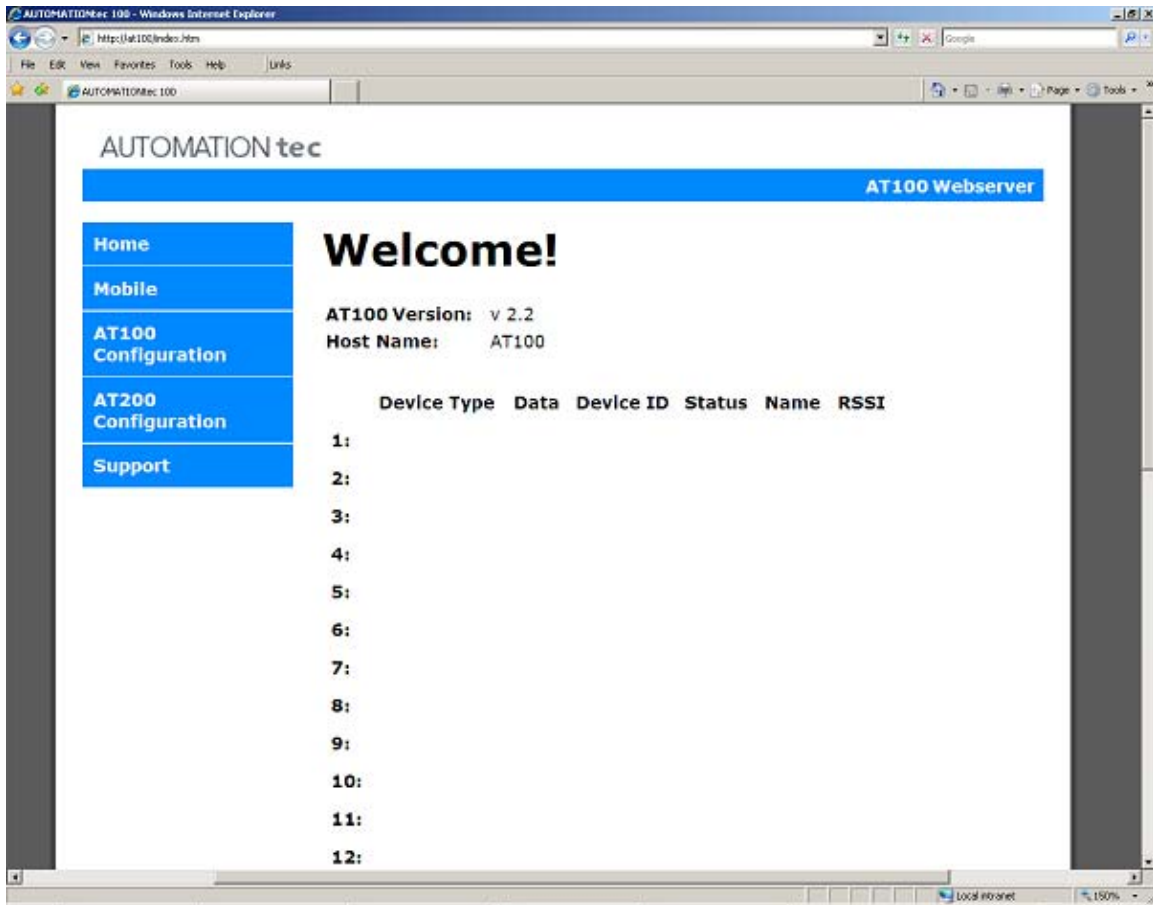

Fig 1
5. Type “at100” in the address bar at the top of the screen and press ENTER on the keyboard. A page similar to Fig 1 should be displayed.
5. Type “192.168.1.250” in the address bar at the top of the screen and press ENTER on the keyboard. A page similar to Fig 1 should be displayed.
The version number might vary and device list may be blank as shown in Fig 1. This home page will show the data and status from each AT200 sensor module once they are configured.